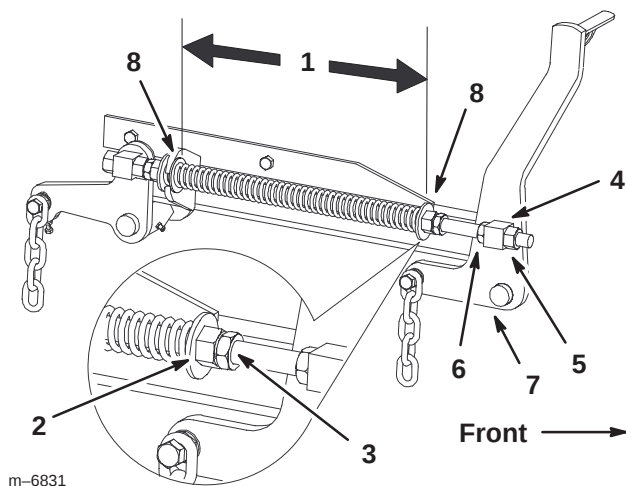

Figure 71
7. Loosen the front swivel jam nuts, at the front of the right and left swivels, approximately a 1/2 inch (13 mm) (Fig. 71).
8. Adjust the lift nuts on both the left and the right side of the machine to achieve **1/4 to 3/8 inch (6 to 10 mm) lower in front at A than in the rear at B** (Fig. 71).
2. Check the distance between the two large washers, it needs to be 10-1/2 inches (26.7 cm) (Fig. 71).
3. Adjust this distance, by loosening the spring jam nut and turning the nut in front of each spring (Fig. 71). Turning the nut clockwise will shorten the spring; counter-clockwise will lengthen the spring.
- Lock the nut into position by tightening the spring jam nut (Fig. 71).